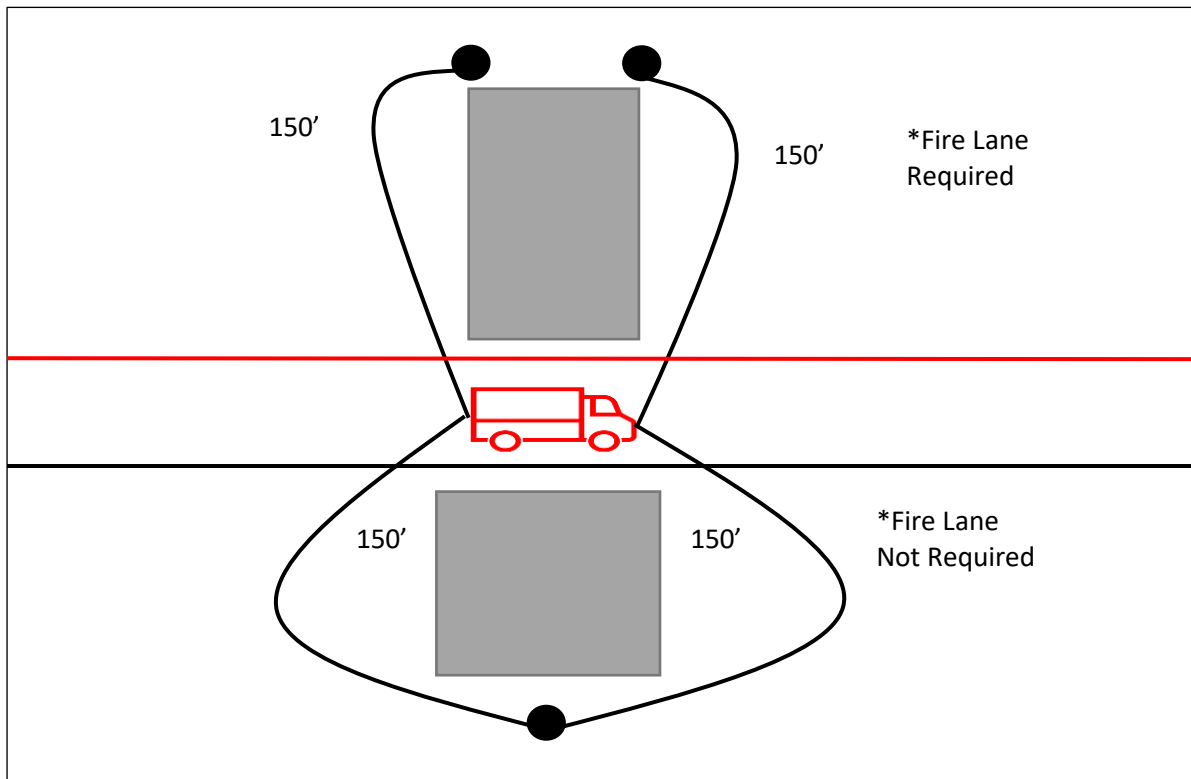

Figure 5 – Fire lane requirements for buildings with limited access for fire hose
- All buildings or structures shall be constructed in such a way that all ground level, exterior sides of the building are within one hundred fifty feet (150') of the dedicated street or fire lane, measured by the route necessary to extend firefighting hose lines around the building. If the one hundred fifty feet (150') cannot be reached from a public street, a fire lane will be required on site. See figure 5.